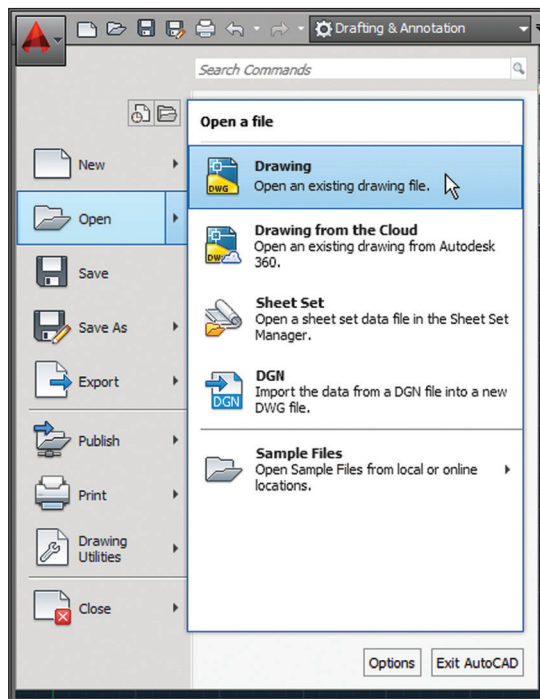

FIGURE 1.6 Opening a drawing from the Application menu
2. Click the red X at the extreme right edge of the search box to make the initial Application menu interface reappear. Here you can create new or open existing drawings, export or print drawings, and more. Hover the cursor over Open and then click Drawing (Figure 1.6).